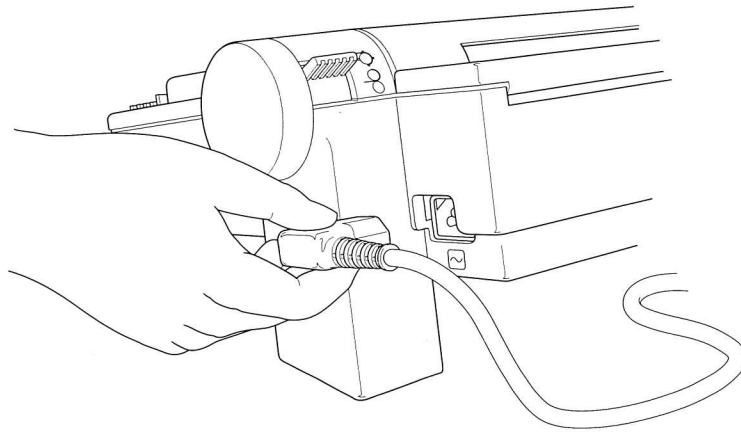

Figure 2-8 ImageWriter II power socket
1. Plug the power cord into the ImageWriter II's power socket, and plug the three-pronged end into a power outlet. (See Figure 2-8.)